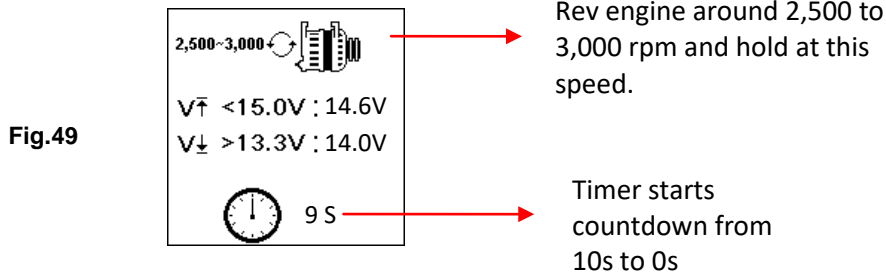

Fig.49
4. Then rev the engine to around 2,500 ~ 3,000 RPM and hold at this speed. Press  key to continue and display will show. (See Fig. 49).